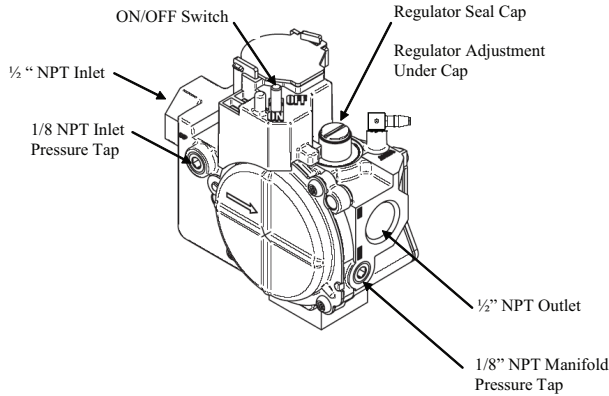

Fig. 57 - Redundant Automatic Gas Control Valve
- b. Remove seal cap that conceals adjustment screw for gas valve regulator. (See Fig. 57.)